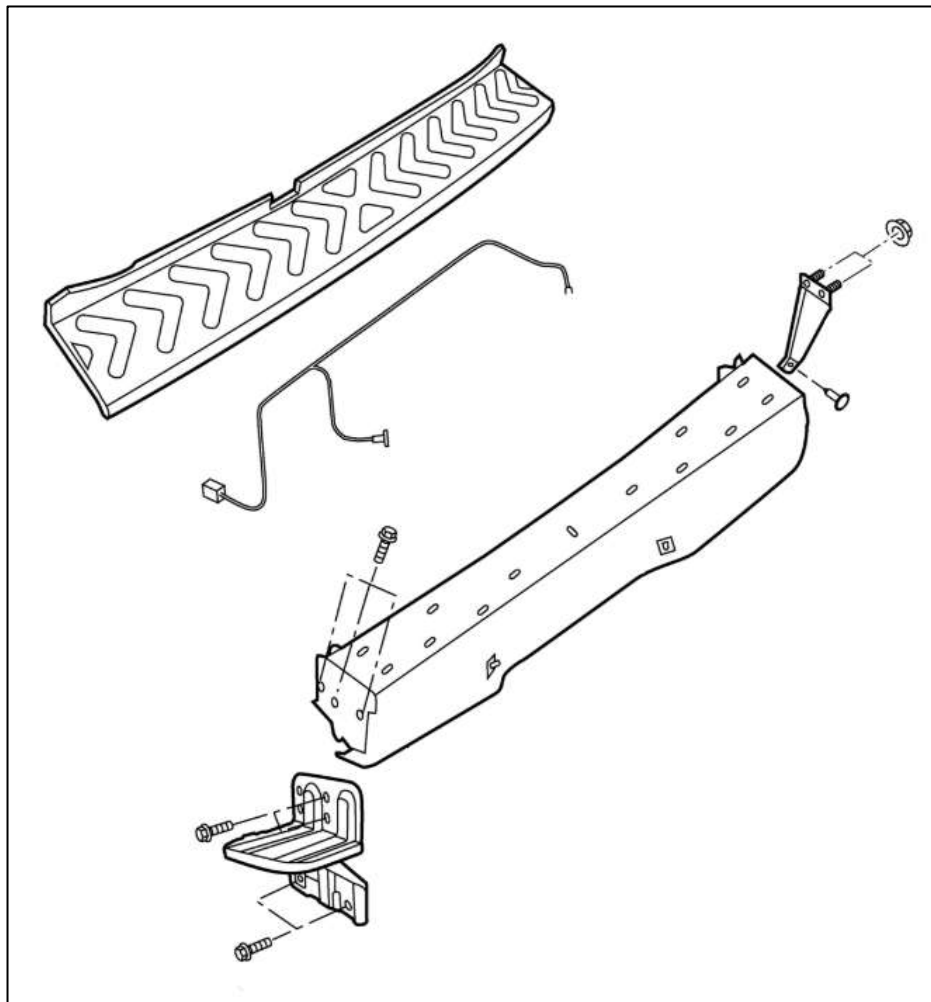

Figure 4
9. Remove Rear Bumper. Use *Figure 4* below to see mounting points. Retain this hardware as it will be reused.